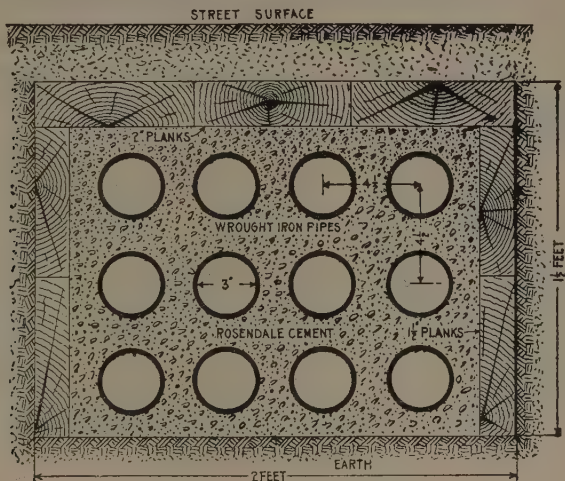

FIG. 983.—Cross section of wrought iron pipe conduit laid in hydraulic cement.
**Wrought Iron or Steel Pipe Conduits.**—These are formed of pipes similar to gas or steam pipes, with screw or other connections. They are laid either simply in the earth, or in hydraulic cement, and are the strongest and one of the most satisfactory forms of underground conduit. An appropriate standard of this kind of work is shown in fig. 983.